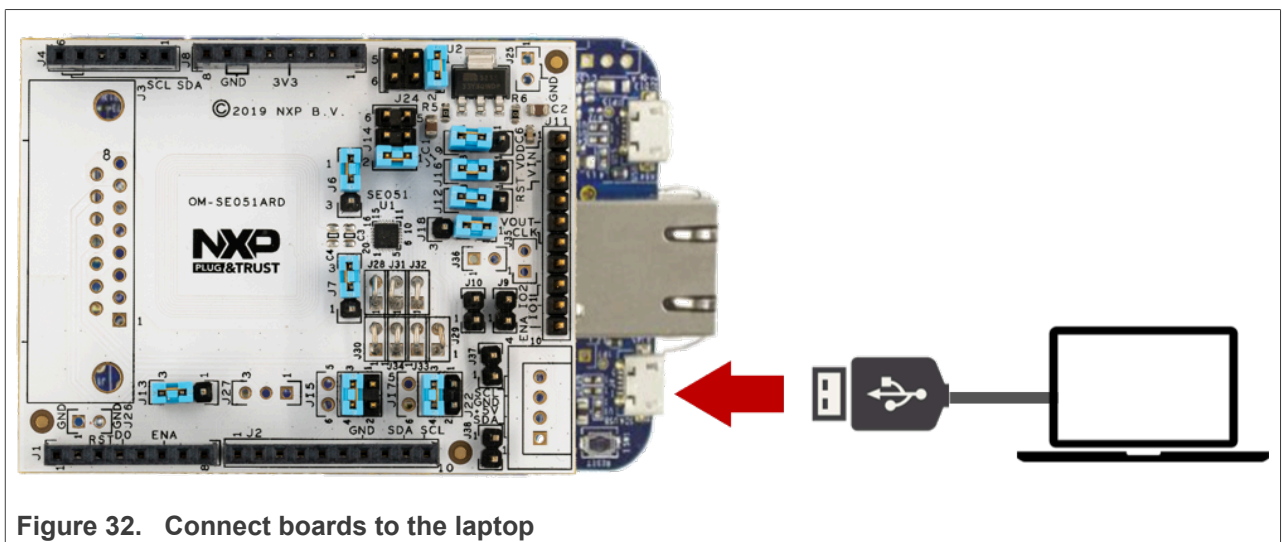

Figure 32. Connect boards to the laptop
1. Attach a USB cable from the computer to the K64F OpenSDA debug USB connector as shown in Figure 32.